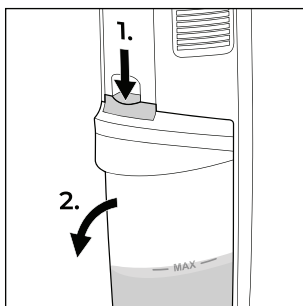

Fig. 20
1. Press the knob at the top of the waste water tank **2** downwards (see fig. 20). Hold the handle of the waste water tank **2** while pressing the knob downwards.
2. Pull the waste water tank **2** forwards out of the appliance (see fig. 20).